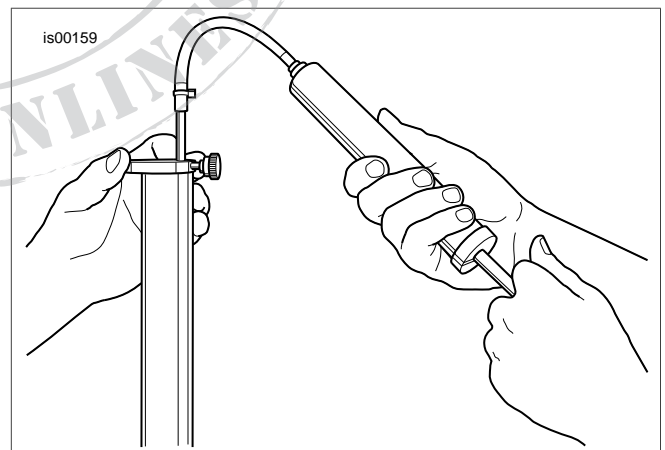

Figure 7. Remove Excess Fork Oil
14. See Figure 7. Adjust the fork oil level, so that it is 4.72 in (120 mm) from the top of the fork tube with the fork tube